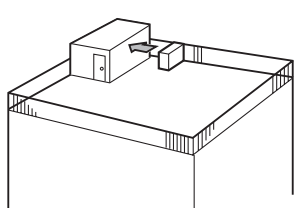

Fig. 2-4
- (1) Face the air outlet towards the nearest available wall about 500 mm away from the wall. (Fig. 2-4)